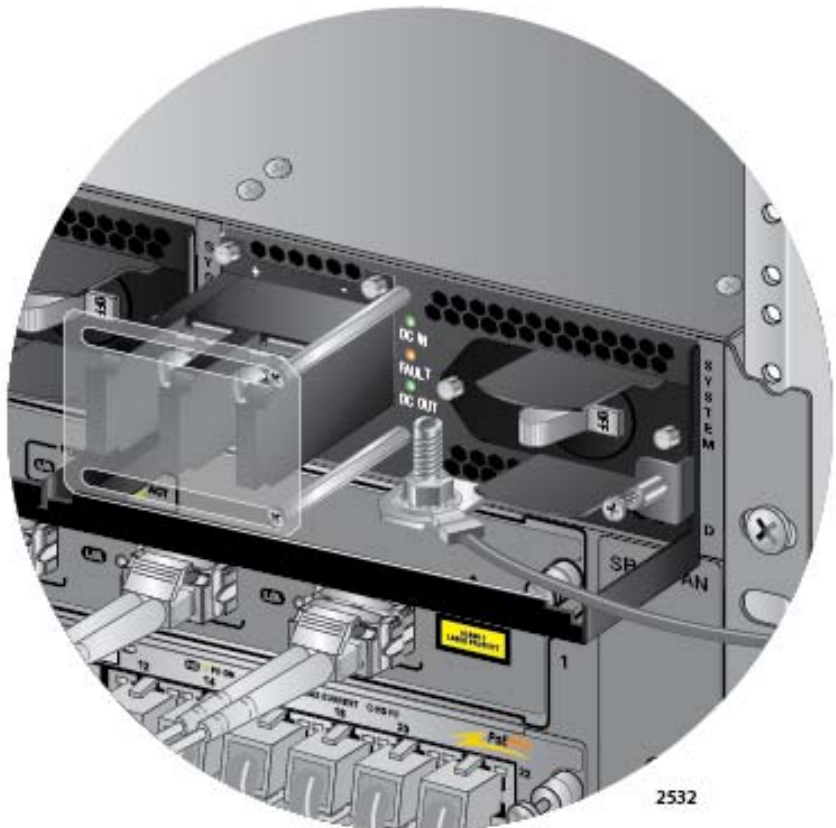

Figure 127. On/Off Switch On the AT-SBxPWRSYS1 DC Power Supply
3. Verify that the On/Off switch on the AT-SBxPWRSYS1 DC Power Supply is in the Off position. Refer to Figure 127.
13. Turn the On/Off switch on the power supply to the On position. See Figure 127 on page 189.
3. Verify that the On/Off switch on the AT-SBxPWRSYS1 DC Power Supply is in the Off position. Refer to Figure 127 on page 189.
9. Before attaching the power wires from the power supply to the circuit breaker in the wiring closet, check that the circuit breaker is off. Refer to Figure 127 on page 189.
12. Turn the On/Off switch on the power supply to the On position. See Figure 127 on page 189.
2. Verify that the On/Off switch on the AT-SBxPWRSYS1 DC Power Supply is on the Off position. Refer to Figure 127 on page 189.